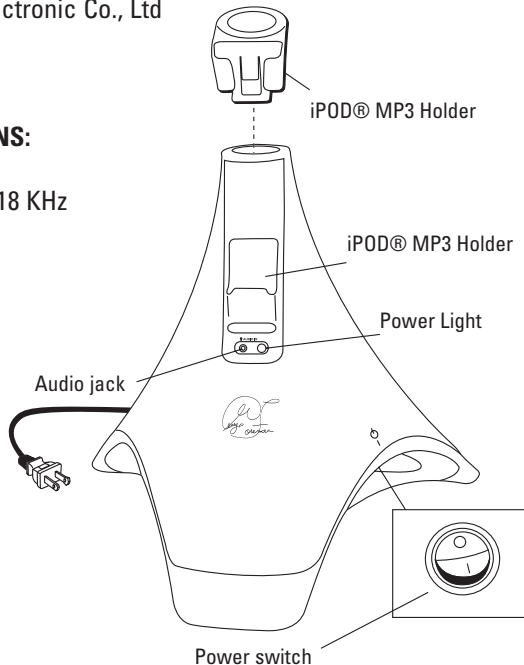

Fig. 5
3. Place the iPod® MP3 holder in position over the opening in the top of the Audio Stand . (See fig 5).
2. Turn on the amplifier speaker by "rocking" the power-on switch which is located under the stand. (See fig 5).